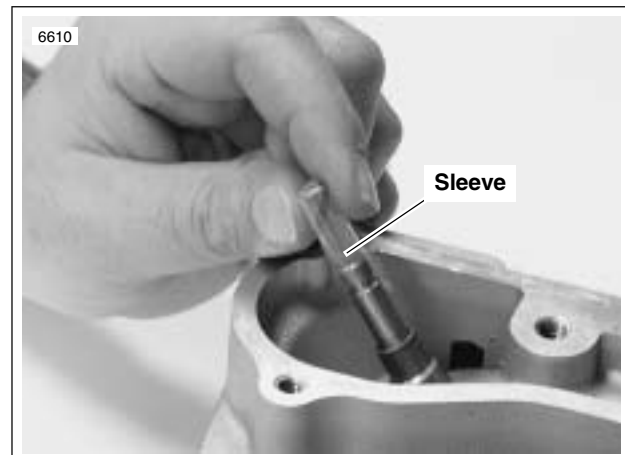

Figure 3-26. Valve Guide Seal Protector Sleeve
6. See Figure 3-26. Place a protective sleeve over the valve stem keeper groove. Coat the sleeve with oil and place a **new** seal over the valve stem.